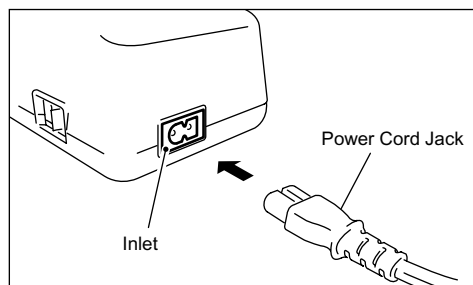
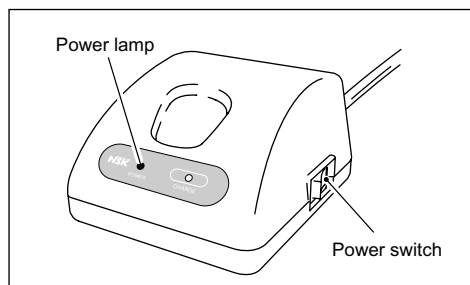

Fig. 11
Fig. 12
- ① Insert the power cord jack into the inlet at the back of the battery charger. (Fig. 11)
- ② Insert the power cord plug into the outlet of the correct voltage.
- ③ Turn on the power switch. At this time, check that the power lamp lights. (Fig. 12)